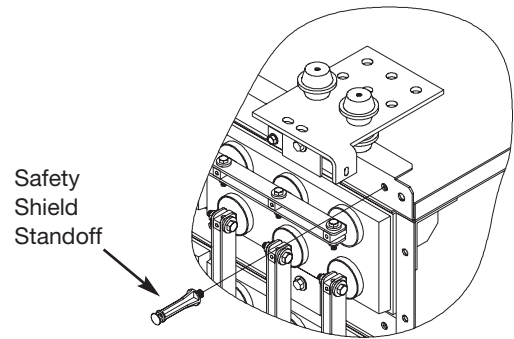

FIGURE 18b
5. For cable connections from the cell terminal-to-terminal plate, it is recommended to install the safety shield standoff in the upper corner of the system where the connection will be made to the terminal plate as shown in Figure 18b.